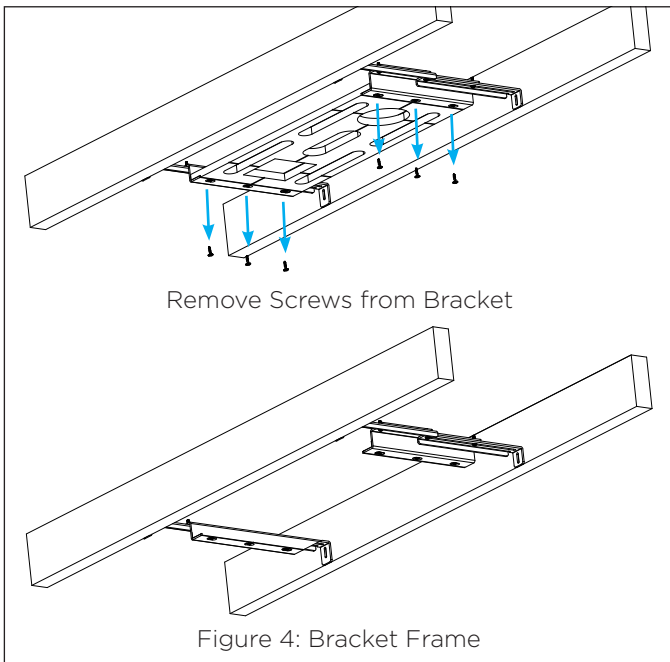

Figure 4: Bracket Frame
7. Remove the screws on the front of the bracket, three on each end, to remove the MDF bracket from the bracket frame (see Figure 4). These screws can be discarded.